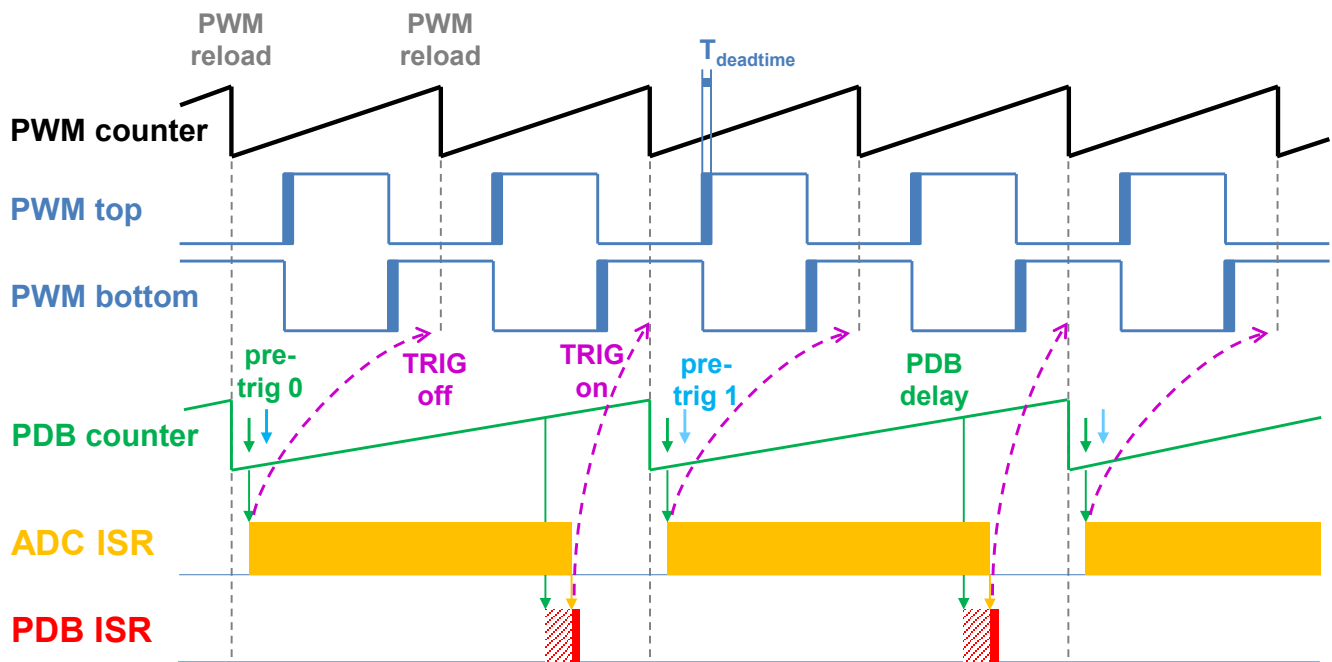

Figure 5. Hardware timing and synchronization on KV31F
- The PDB Delay interrupt is enabled. This interrupt is generated when the PDB_IDLY is reached. This interrupt enables the FTM_TRIG (Figure 5).